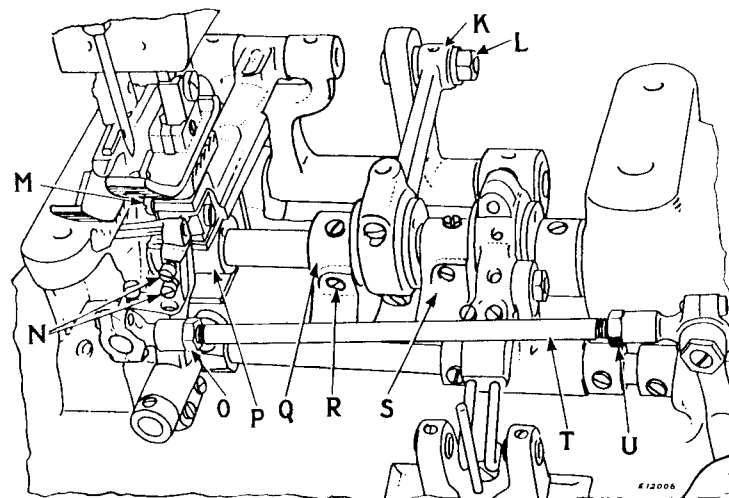

Fig. 5
The length of stitch is determined by the position of the feed eccentric connection (K, Fig.5). To make a shorter stitch, loosen the nut (L, Fig.5) and move the connection (K) upward in the slot. To make a longer stitch, move the connection downward in the slot. Then tighten the nut (L).
To change the loopers, loosen the two screws (N, Fig.5) which hold the looper in place and remove the looper. Set the desired looper down into the looper carrier as far as it will go, then tighten the two screws (N) against the flat on the looper shank. The upper threading and adjustment of the machine are the same for single thread chain stitching as for two-thread chain stitching.
To set the needle bar at the correct height, loosen the clamping screws (J, Fig. 5) and move the needle bar upwardly or downwardly as required, then securely tighten the clamping screws (J).
To obtain the correct distance between the center of the needle and the point of the looper, loosen the two lock nuts (O and U) at both ends of the looper carrier pitman (T, Fig. 5) and revolve the pitman as required to bring the looper to the desired position. Then hold the pitman while tightening the two lock nuts.
The feed dog is usually set so that when it is raised to its highest point, the full depth of the teeth project above the top surface of the throat plate. For some thicknesses of material, it may be necessary to change the height of the feed dog. To do this, take out the screw (M, Fig. 5) and remove the feed dog. The feed dog should rest on the stop screw underneath it, and this stop screw may be set higher or lower, as desired. Replace the feed dog and tighten the screw (M).
The timing of the feed eccentric (Q, Fig. 5) is fixed by having the forward set screw (R) in the eccentric bear against a flat surface on the shaft.
The timing of the feed lifting cam (P, Fig. 5) is fixed by having its set screw bear against a flat surface on the shaft.
The looper thread take-up should engage the looper thread as the looper reaches its foremost position and should take up the slack of the thread as the looper moves back. The timing of the take-up cam (S, Fig. 5) is fixed by having one of the set screws in the cam bear against a flat on the shaft. The looper thread take-up wires should be pushed into their holder until they rest against the stop. The wires should just clear the thread as they engage it before the take-up action.